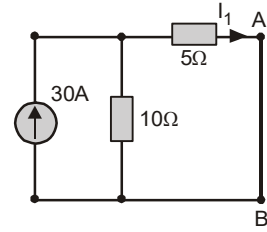

Fig.1.124: Considering only current source
- (i) Considering only current source, the circuit will be reduced as shown in fig.1.124.